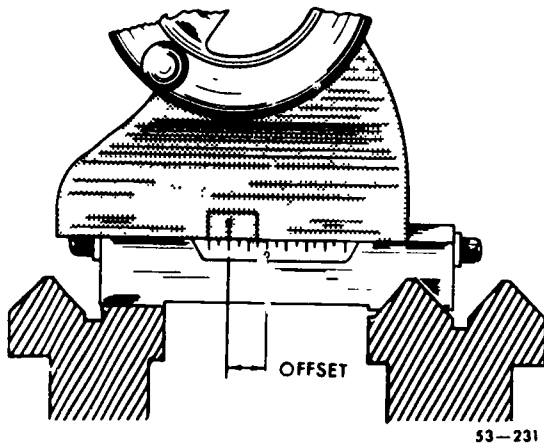
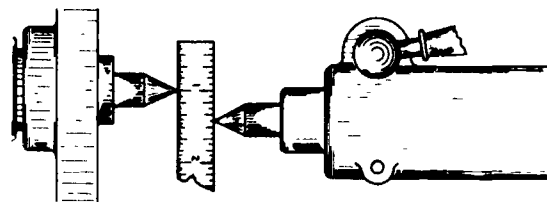

Figure 5-26. Tailstock cricket marks
Figure 5-27. Measuring offset with a steel rule.
*Measuring offset.* You may measure the amount of the tailstock offset by various methods, depending upon the nature of the job. On work that does not require a great degree of accuracy, you may measure the amount of offset by reading the graduations (called cricket marks) on the base of the tailstock, as shown in figure 5-26. Or you may measure the lateral distance between centers with a machinist's rule, as shown in figure 5-27. On work requiring a great deal of accuracy, you may measure the amount of offset (1) with an inside caliper, (2) with the dial test indicator, (3) by using the crossfeed calibrated collar, or (4) by using the cut and try method.